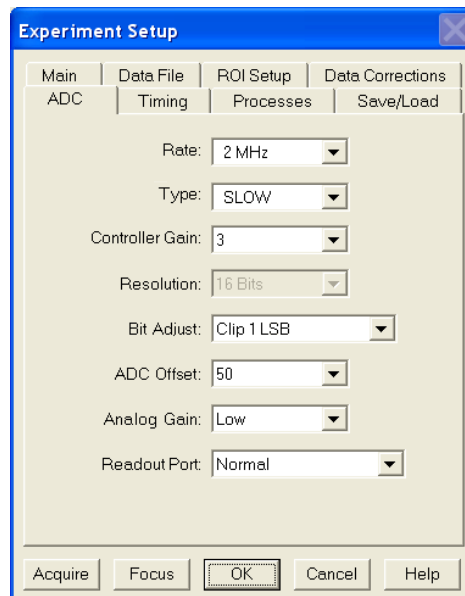

Figure 42. Generic ADC tab
5. On the **ADC** tab (Figure 42), set the parameters as they apply to your particular system.